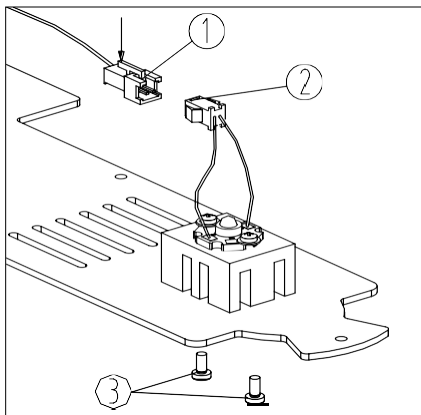

Fig.5
Remove the lock screw on the base plate and remove base plate. Unplug connector to remove base plate from the microscope ① and ②. Remove the two screws ③ to remove LED module. Replace with a new LED module. Reinstall the LED module by replacing the two screws on the base plate, connect plug connector ② into connector socket ①, reinstall baseplate onto microscope (See Fig.5).